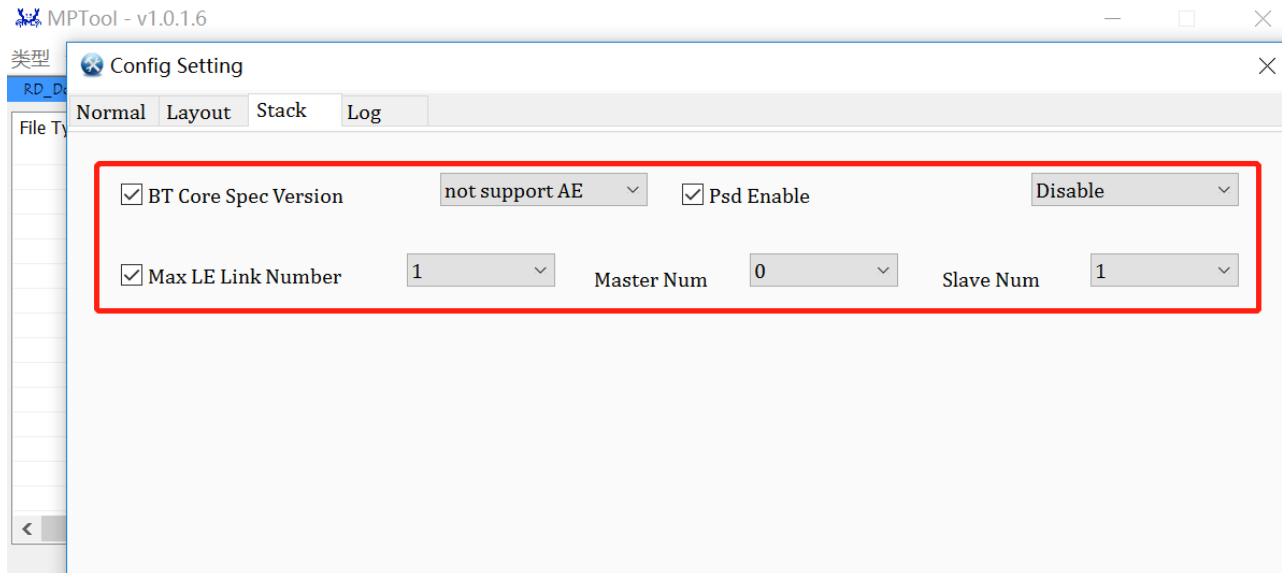

Figure 3-4 Total RAM Size Available for APP Configuration
- 1) Configure Bluetooth as single link: Modify the “stack” page in the Config Set option in MPTool to modify the configuration as shown in Figure 3-4 to add 5KB Data RAM Heap and 1.5KB Buffer RAM Heap. Therefore, the total RAM size available for APP development is increased to 35 (Data RAM Global) + 24 (Data RAM Heap) + 6 (Buffer RAM Heap) + 16 (Cache share ram) = 81 KB.